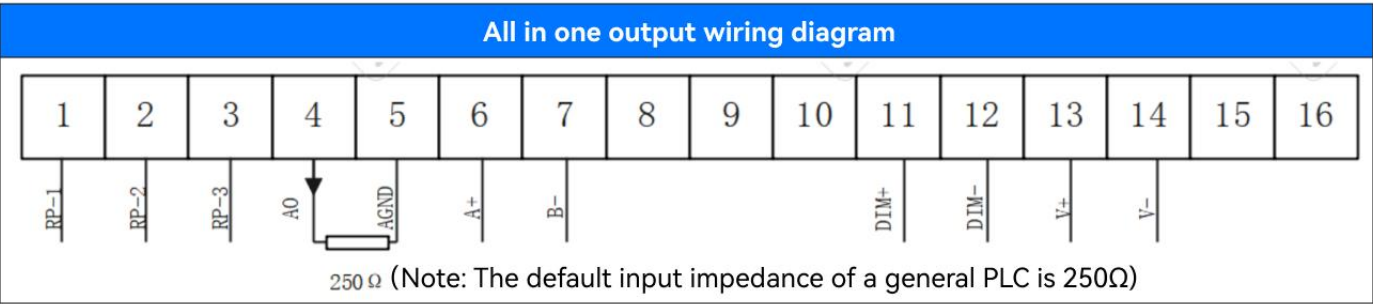
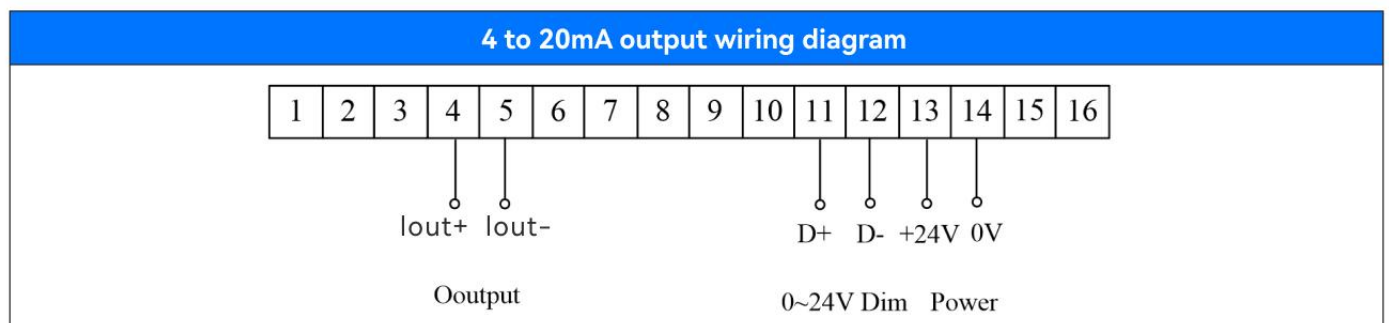

Figure1.5
Figure 2.7
5. Backlight adjustment mode: the thin film of the handle adopts cold light source design, the brightness can be adjusted, and the dimming mode includes resistor adjustment (in which the dimming mode of the resistor is only suitable for our model VDM-96 dimmer, the resistance value is 2K Ω), 0-24V voltage adjustment, PWM, and the wiring is shown in FIG. 1.5 and FIG. 2.4. For 0-24V dimming signals, the dimming signal is the darkest at 0V and the brightest at 24V. Note that the dimming signal and the power signal cannot be shared, otherwise the handle signal output will be affected, resulting in failure to work normally. The connection diagram is shown in Figure 2.7: Please consult our sales staff to determine the selection of PWM dimming interface signal.
3. According to the characteristics of the accessories used in this product, the instantaneous input voltage shall not exceed 20% of the range specified in Figure 1.5 at any time. Avoid excessive instantaneous current and burning accessories.